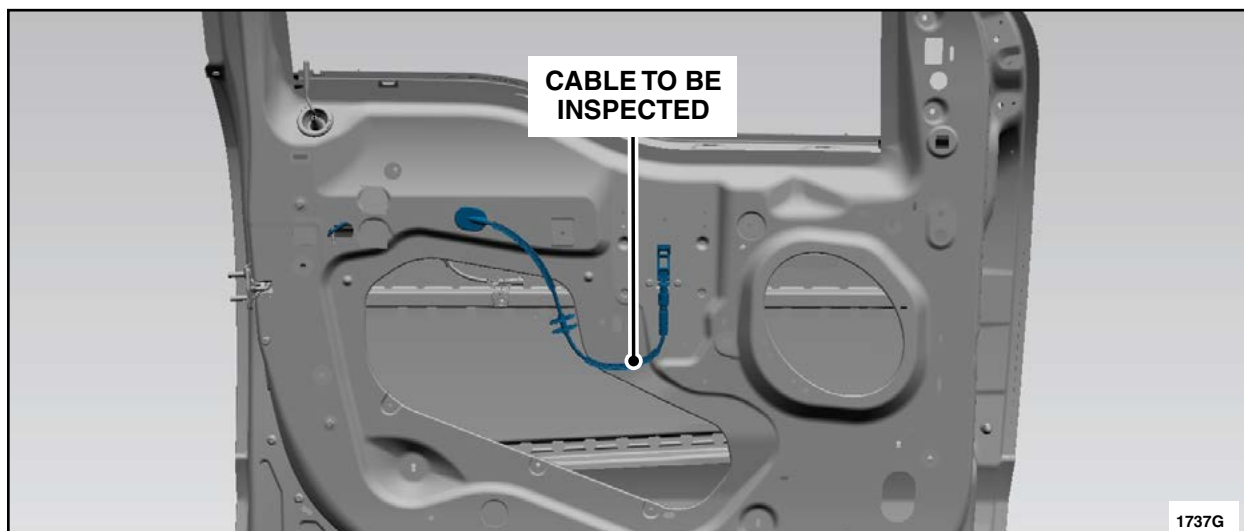

FIGURE 1
3. Inspect the interior door handle to latch cable for kinking. See Figure 1.